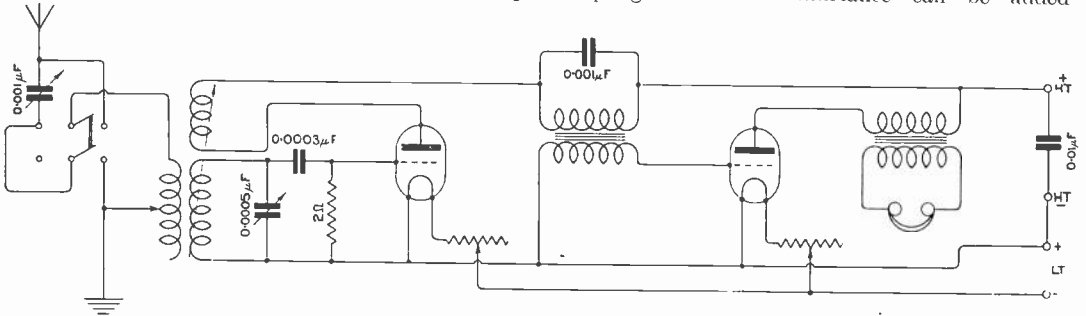

Fig. 3.
"J.W.D." (Finsbury Park).—We suggest that you construct the Broadcast Receiver described in our issues of August 26th and September 2nd. Very complete instructions are given for making this set, and the results justify whatever pains are taken to make it. Plug-in coils are used, therefore you will be able to cover whatever wavelength range you may desire. Should you experience any trouble while making the set, we shall be very pleased to answer any enquiries you may address to us. See circuit Fig. 3 for experimental reception on wavelengths not used for broadcasting.
(1) We do not care for your circuit. A parallel A.T.C. on short wavelengths is useless. See Fig. 3. (2) Bare 7/22 cable will suffice, but we prefer to run insulated cable to the earth connection. (3) Yes, if it is of stout construction. (4) See the issue of June 10th, page 326. For FL use honeycomb coils.